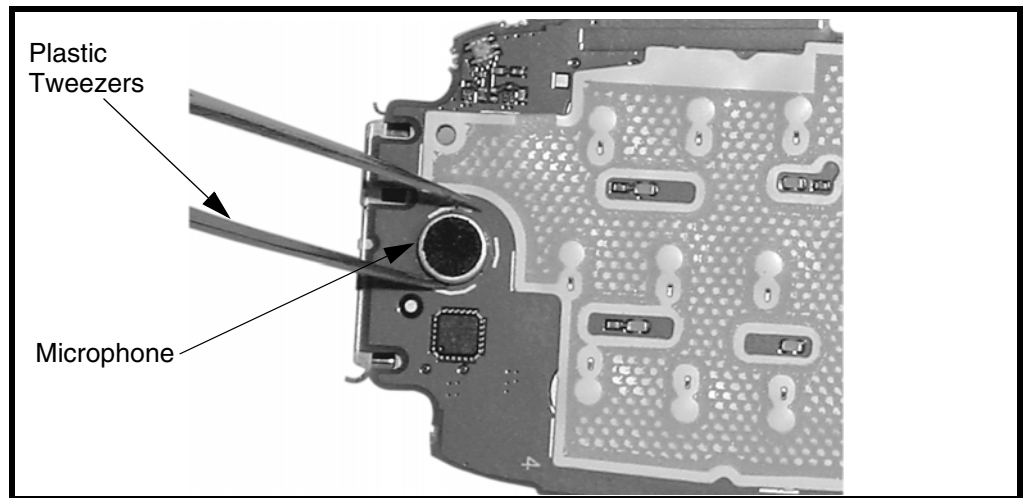

Figure 11. Removing and Replacing the Microphone
3. Use the plastic tweezers to unplug the microphone from the transceiver board as shown in Figure 11.